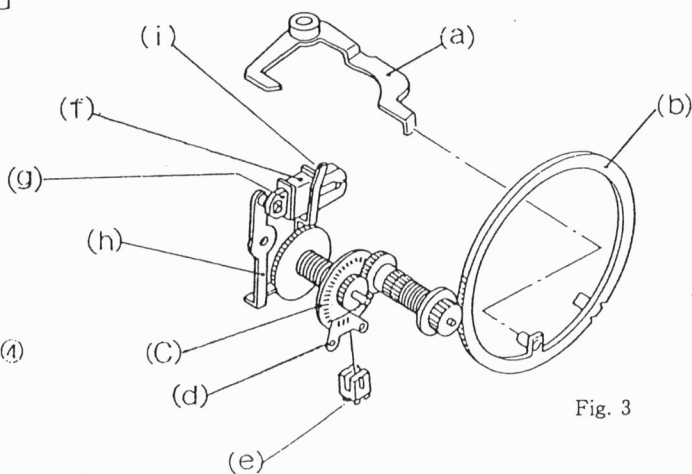

Fig. 3
(2) Aperture Control Mechanism. (refer to Fig. 3)
The Aperture control mechanism is charged in the manner shown in Fig. 3 with "i".